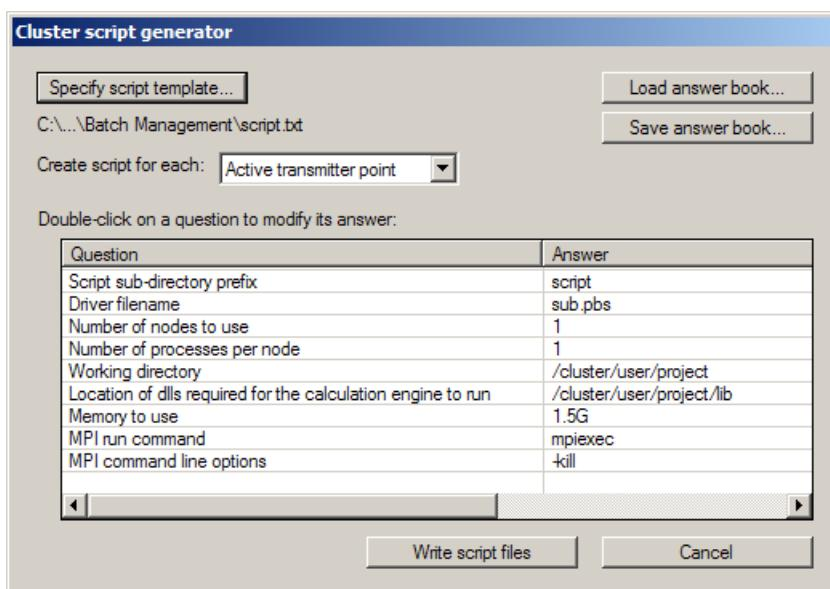

Figure 17.1: The Cluster Script Generator Window
Once a template is created, it can be used to create the scripts for running the calculation through a batch manager. The CLUSTER SCRIPT GENERATOR Window, seen in Figure 17.1, will read the template file and present the options used to control how the scripts will be generated. This is accessible by selecting  RUN → Prepare cluster scripts.
- ✓ In Figure 17.1, the template from Section 17.3 has been loaded and is displaying the questions and default answers that were specified in it.